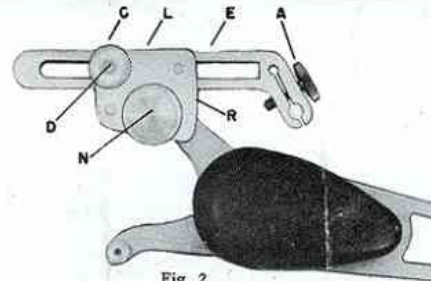

Fig. 2
2. Remove nut (C) and screw (D).
3. Remove arm (E) and re-install as shown in Fig. 2.
4. Replace screw (D) and nut (C).